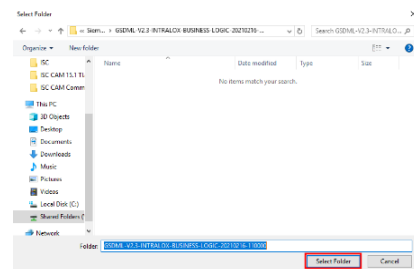

Figure 3: GSD Folder Selection
6. A windows explorer will open, browse to the saved folder location of the downloaded GSD file, step 1a, click “Select Folder, Figure 3.